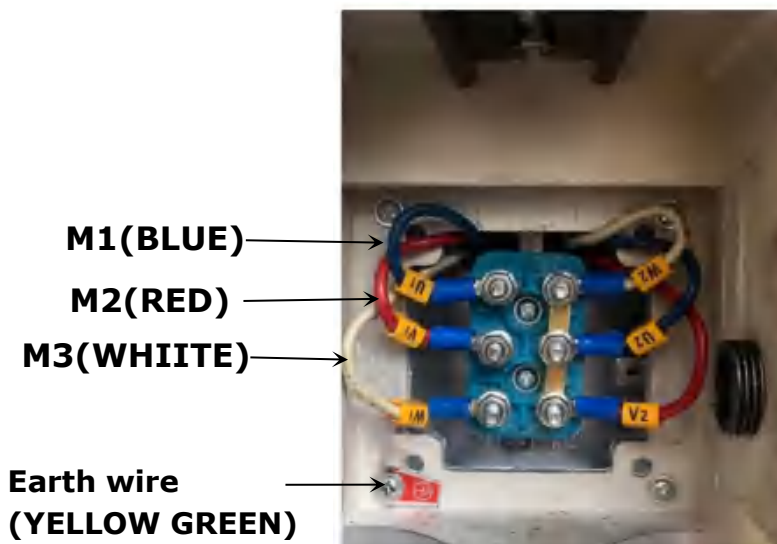

Fig. 34
2.2 Three phase Wire connection diagram of hydraulic motor (See Fig. 34)